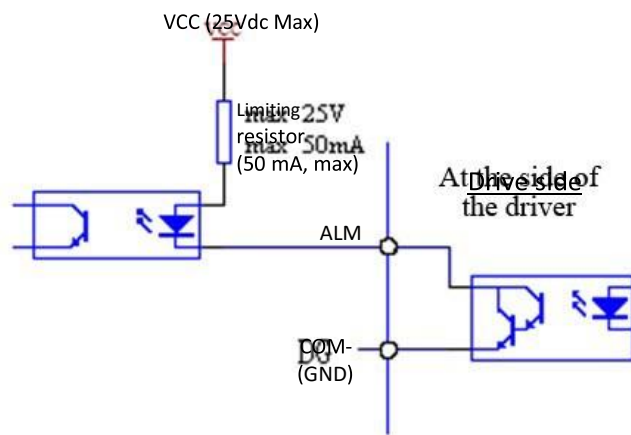
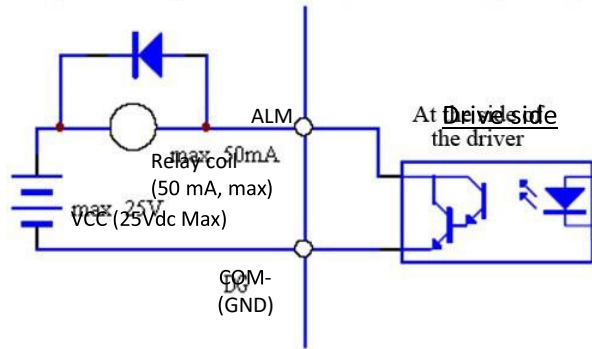

Figure 4-2a
Figure 4-2b
- ❑ Use Darlington transistor for the output, connected with the opto-coupler (Figure 4-2a) or relay (Figure 4-2b);
- ❑ If the load is inductive load (e.g. relay in figure 4-2b), anti-parallel freewheeling diode is required. If the polarity of freewheeling diode is reversed, damage to the servo drive and the diode itself may occur;